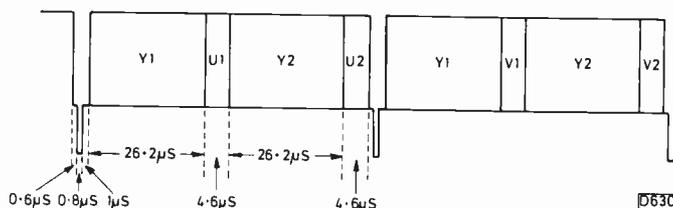

Fig. 1: Two channels in one: time-compressed signal system in experimental use by RAI (Italy).
**Italy:** A new video signal transmission technique is being tested by RAI on the Milan-Rome link. To avoid system congestion at times, time-compression is used to enable two video signals to be carried in a common channel. The signals are first separated into their luminance and colour-difference components and then arranged in a time-division multiplex as shown in Fig. 1. Note that the sync pulses are stripped out, a narrow (0.8µsec) line-frequency pulse being added. Signal compression and expansion are carried out digitally.